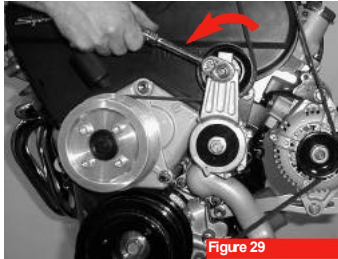

Figure 29
7. **To assist in belt installation, using a 24" long handle ratchet (figure 29), pull down in direction of arrow to provide slack on belt.**